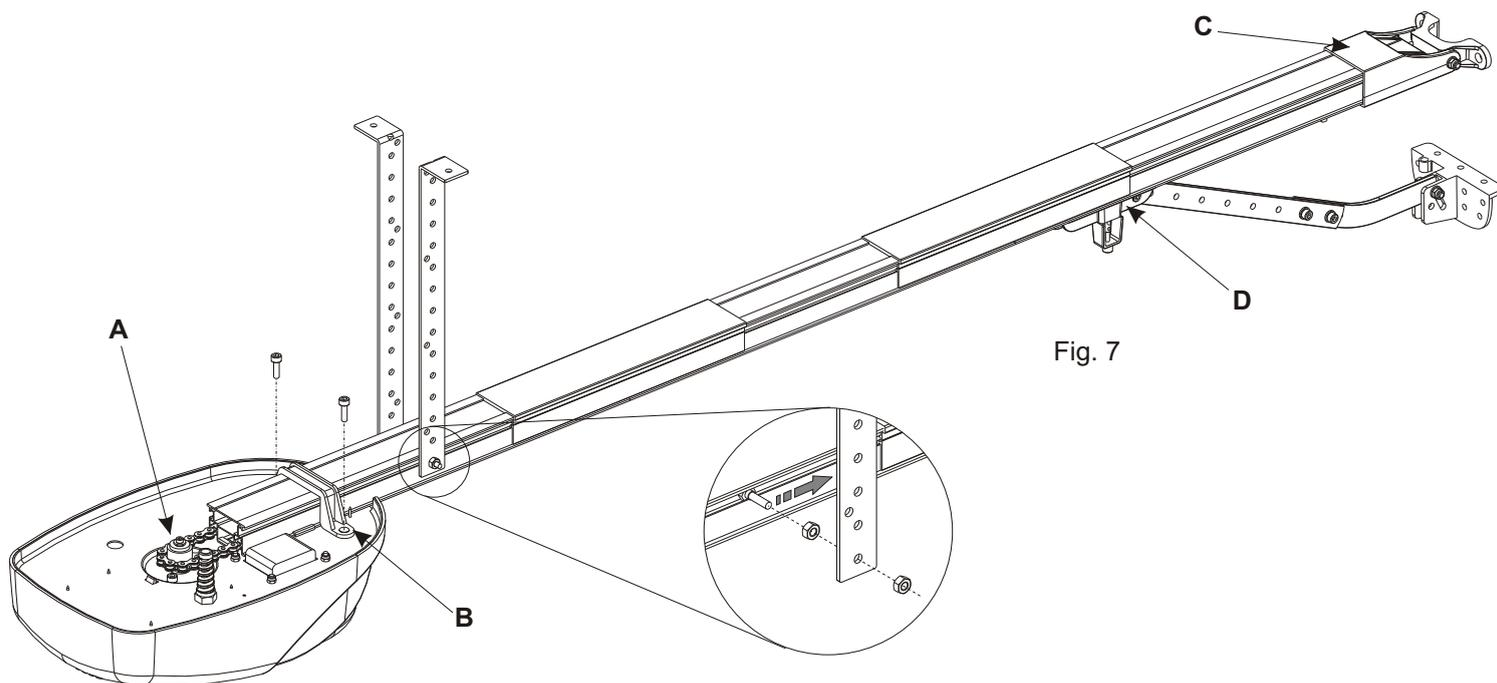

Fig. 7
Notice: In Fig.4 there is a couple of screws put inside the holes which will be used to fix Corona to the ceiling through the provided sections (See also Fig. 7).
- Make sure the chain has been correctly put in the pinion of the Corona body (Fig. 7 - A)
- Bring the guide to the stop on the Corona body and fix it with the provided bracket (Fig. 7 - B)
- Fix the front connection support to the other extremity of the guide. (Fig. 7 - C)
Notice: The chain and the sliding support must be always lubricated. (Fig. 7 - D).